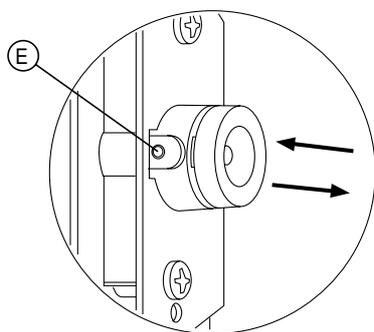

Fig. 12
## 10) Focus adjustment (See Figures 12 and 13.)
- Loosen screw E shown in Figure 12, monitor the waveform on the oscilloscope displayed during adjustment in step 9), and move the lens unit for focus adjustment so that the waveform becomes sharp as far as possible.